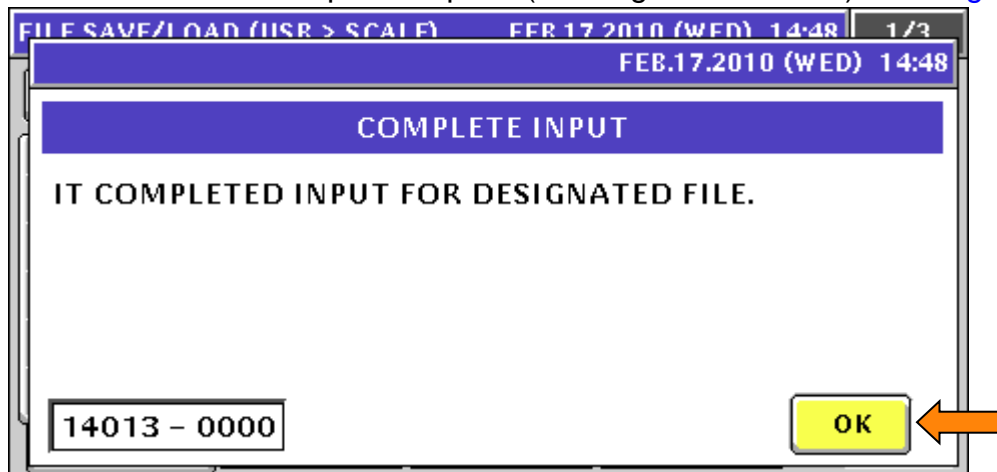

Figure 54. Input from USB Memory Stick Complete Confirmation
- m. Press **OK** when backup is complete (message 14013-0000). See Figure 54.